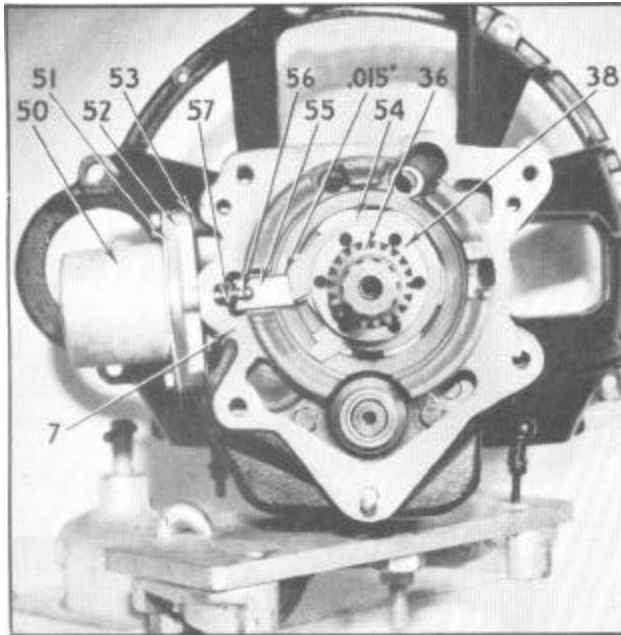

Figure 39--Installing Stationary Gear
7. Install stationary gear (36), Figure 39, plate assembly (38) and balk ring (54) on main shaft.